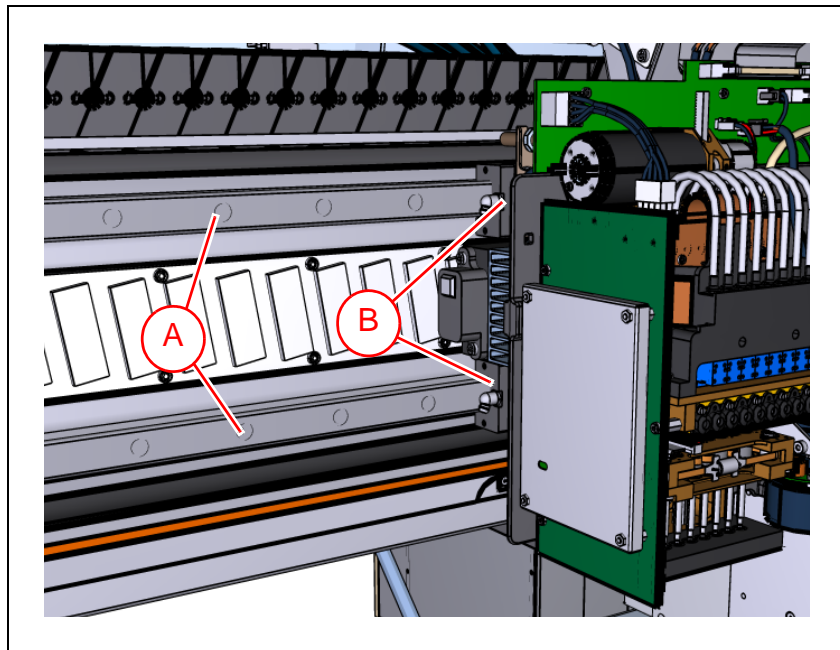

Figure 16-41. Wipe off old grease.
4. Wipe off any old grease from the two X-beam guiding rails ('A' in Figure 16-41) and four X-wagon guide blocks ('B') on each X wagon.